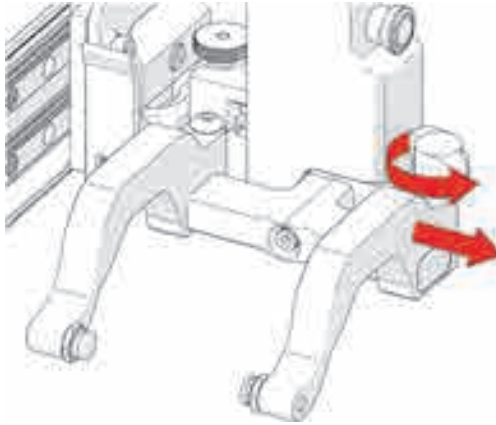

Figure 4-80 Remove outer arm
2. Loosen the probe holder adjustment knob, and remove the outer probe holder arm (see Figure 4-80 on page 153).